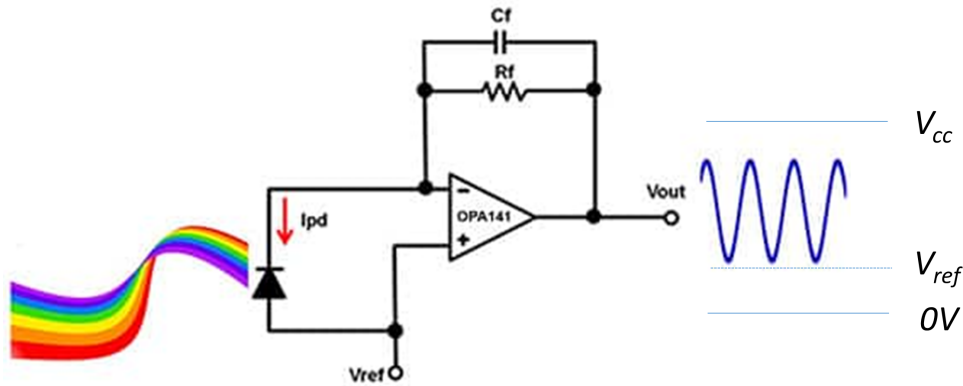

Figure 14: Trans-impedance amplifier with photodiode input. Image adapted from: Digikey Tutorial “How to Design Stable Transimpedance Amplifiers”
6. **Trans-impedance amplifier (TIA)** The job of the the TIA is to convert an current input into a voltage output. In the case of Figure 14, light incident on the photodiode generates a time-varying input current. The TIA correspondingly produced a changing voltage at the output. This configuration is also a close relative of an active-filter with a reference offset voltage (see Figure 15 [E]).